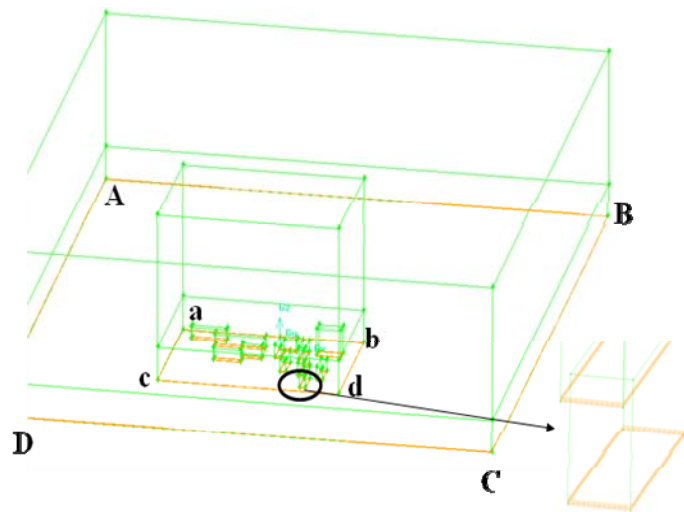

Fig. 33 Boundary layer mesh created at the bottom faces.
\*⑤, The two bottom faces are shown in Fig. 33 as ABCD and abcd. Face ABCD + abcd = the ground.
- ① Click pad 'Mesh'
- ② Click pad 'Face'
- ③ Mesh faces
- ④ Select face abdc (in Fig. 33).
- ⑤ select quad as elements, pave as mesh type.
- ⑥\* Key in an interval size of 6..
- ⑦ Apply